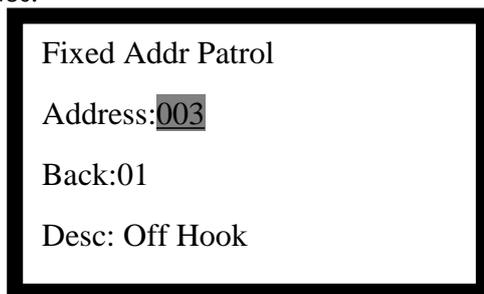

Fig. 4-13
- Select "1. Fixed Patrol" to enter the screen of Fig.4-13. Entering an address code, press **【Menu/Enter】** to view the state of this address.